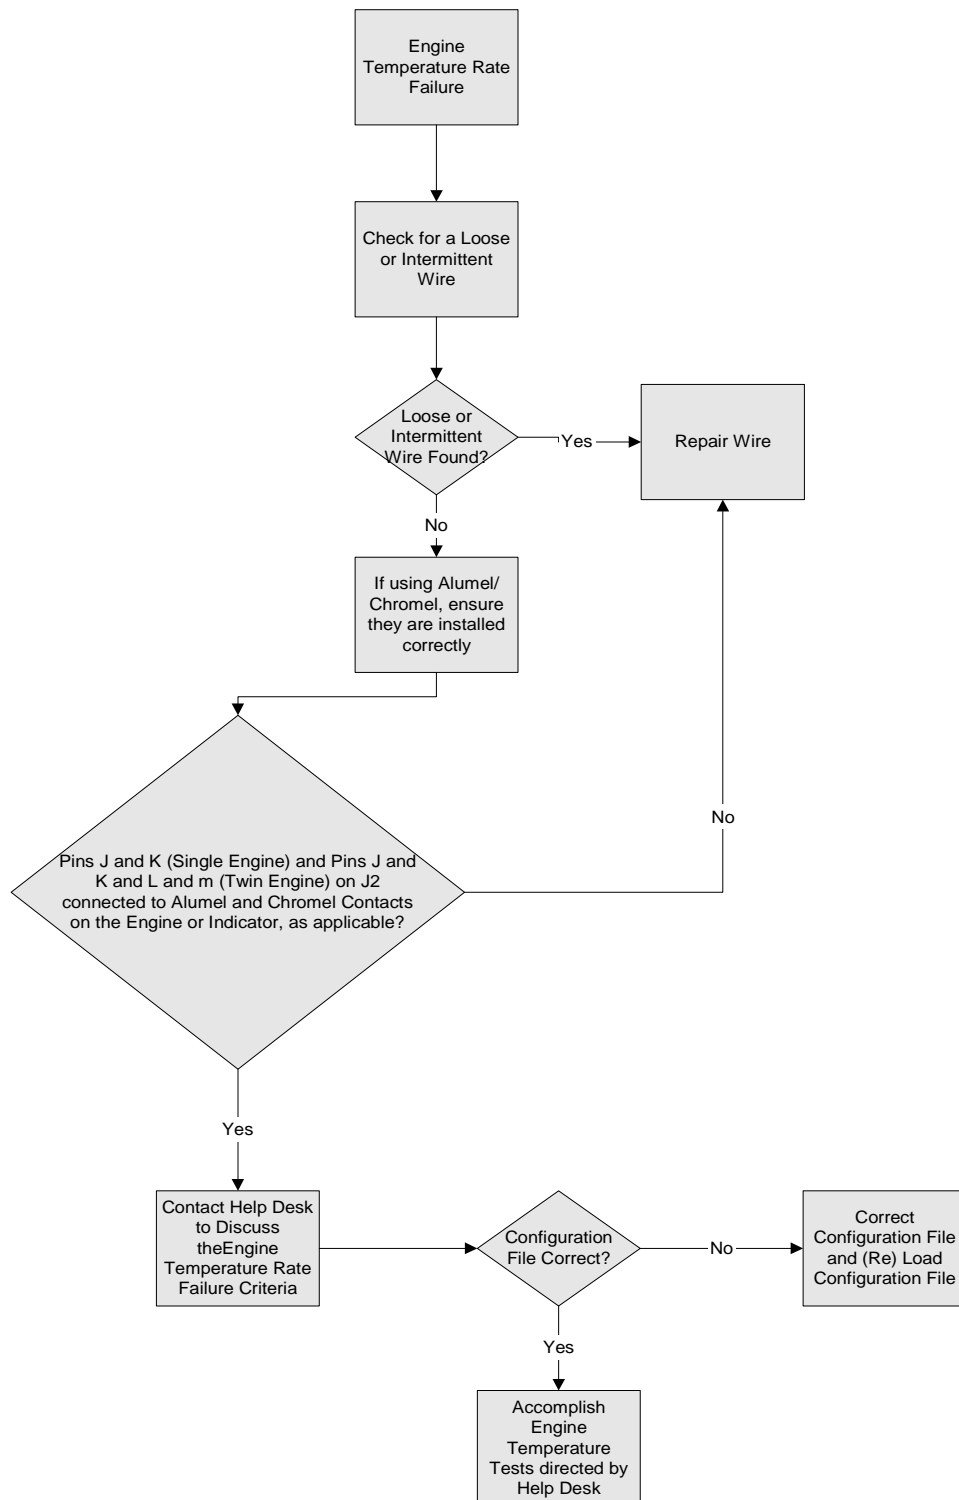

Figure 30: Engine Temperature Rate Failure Troubleshooting
- c. Temperature Rate Failure – Refer to Figure 30.